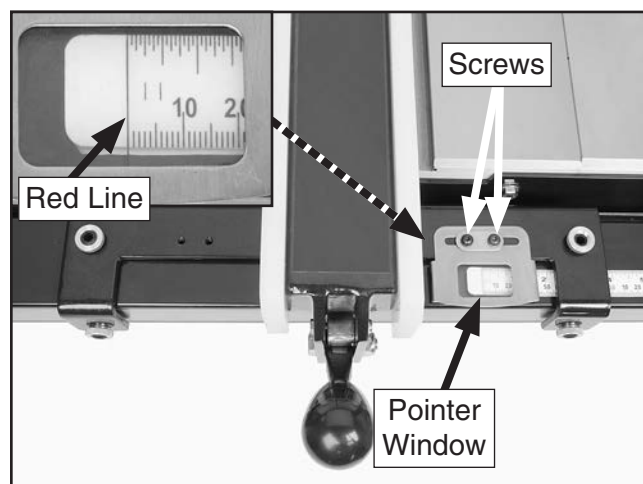

Figure 31. Aligning rail tape with scale pointer.
The pointer window may come pre-installed on the left side of the fence. However, we recommend loosening the mounting screws on the window and reinstalling it on the right side of the fence (see **Figure 31**) so workpieces will not cover the pointer window when preparing to cut.
2. Place the front rail tape scale on the fence tube, making sure it is parallel with the tube and that the "0" end is directly under the red line on the pointer window, as shown in **Figure 31**.